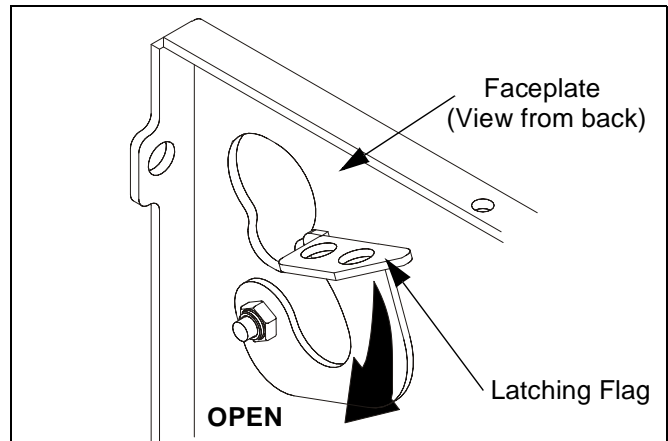

Figure 4: Open Latching Flag
2. Place 4 latching flags in the "OPEN" position. (see Figure 4)